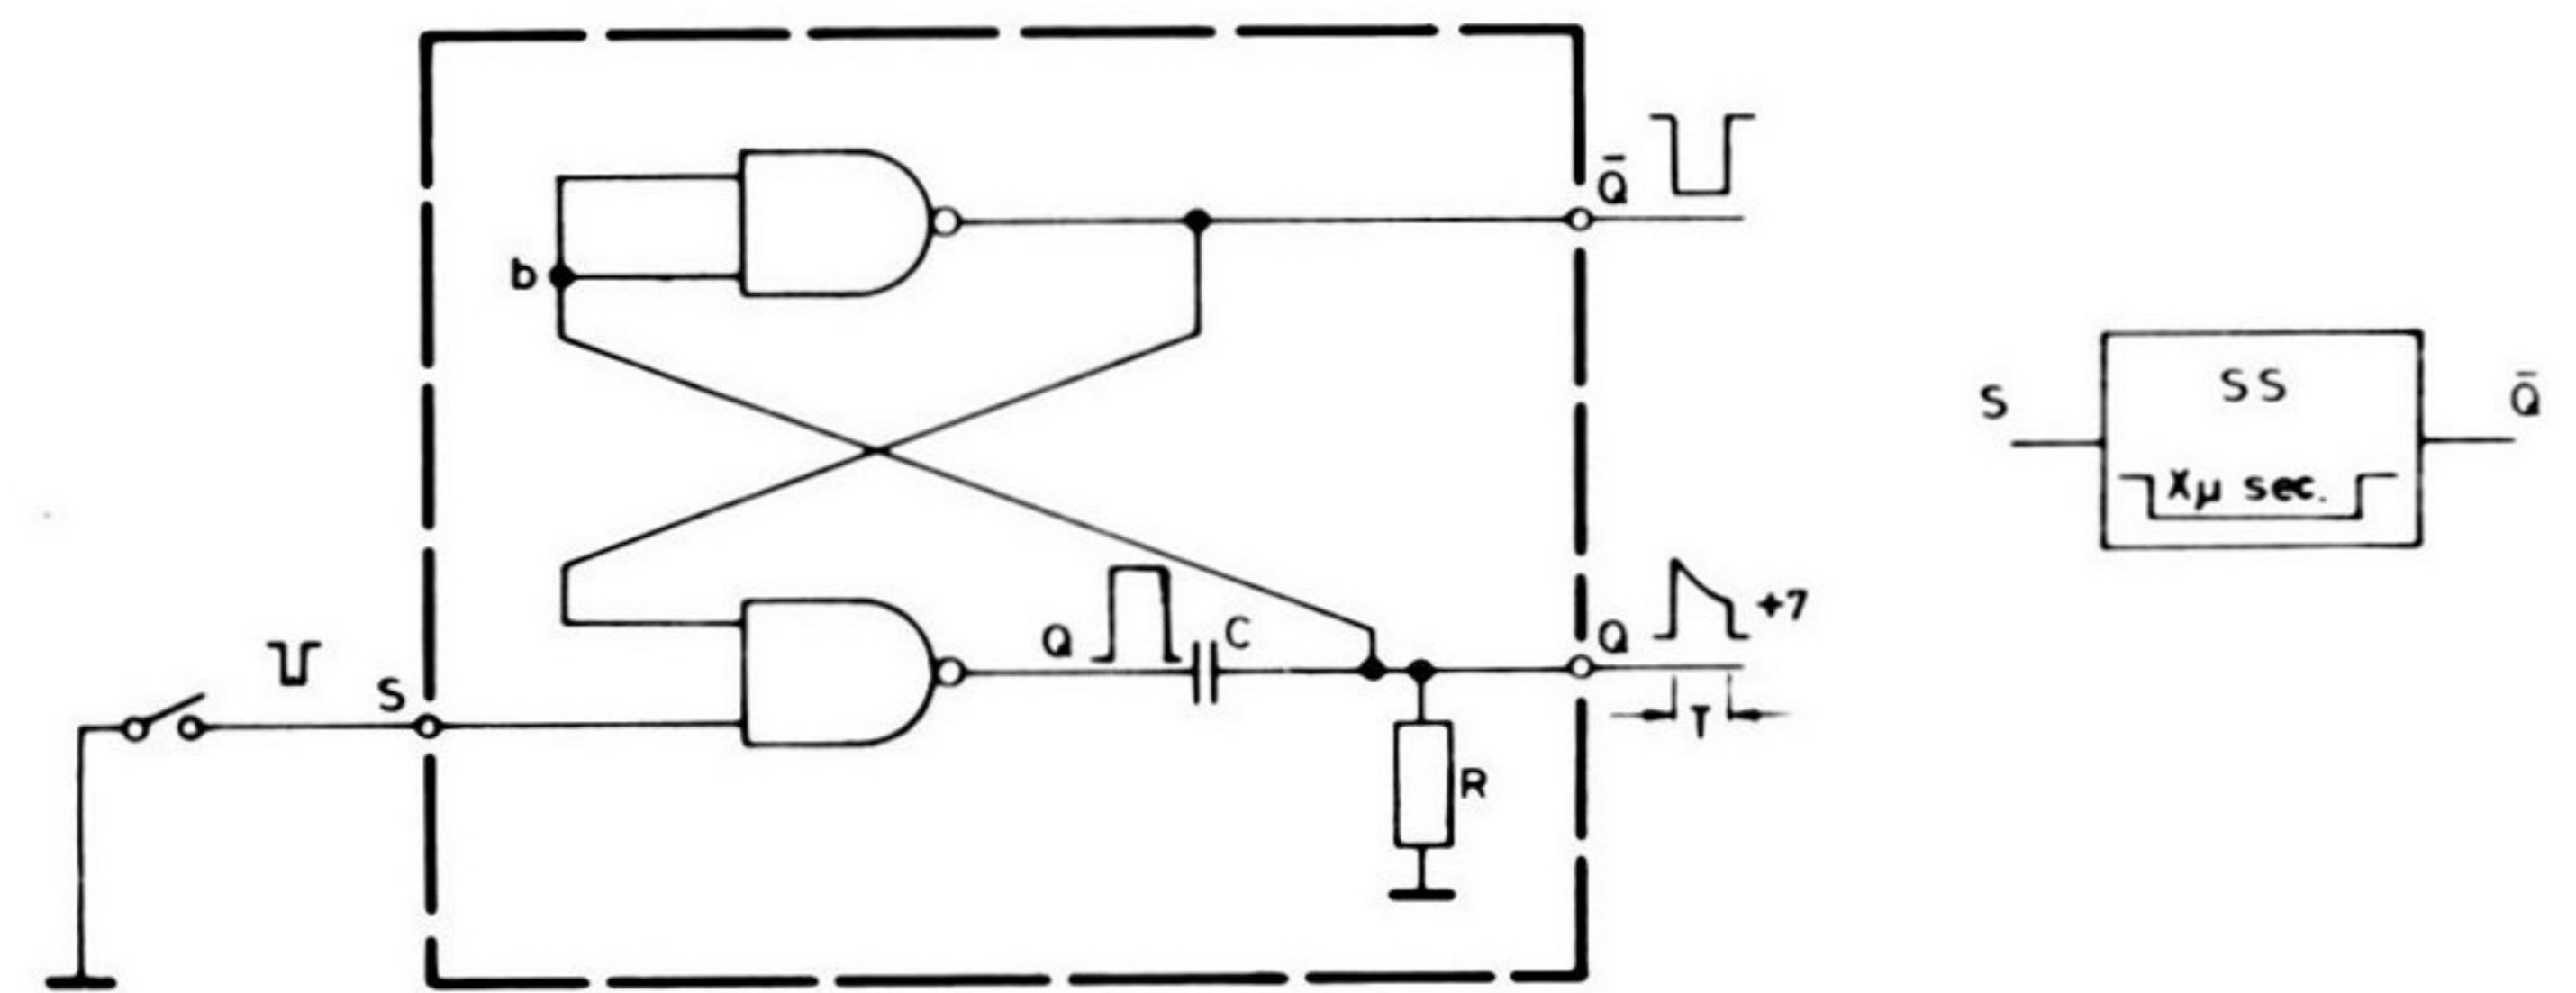

Fig. 1.6 Monostable circuit and symbol
The time-constant T, and also the duration of the output pulse, are dependent on the component values in the R-C stage and can be calculated from the formula $T = 0.69 \times r \times c$. A typical example is shown in Figure 1.6.
The two monostable circuits that are used in the 9000X have a different configuration from the one shown in Figure 1.6. The difference lies in the R-C stage itself which in the 9000X consists of a capacitor (C) and a nand-circuit (R) where the capacitor is discharged by a leakage current through the nand-circuit.